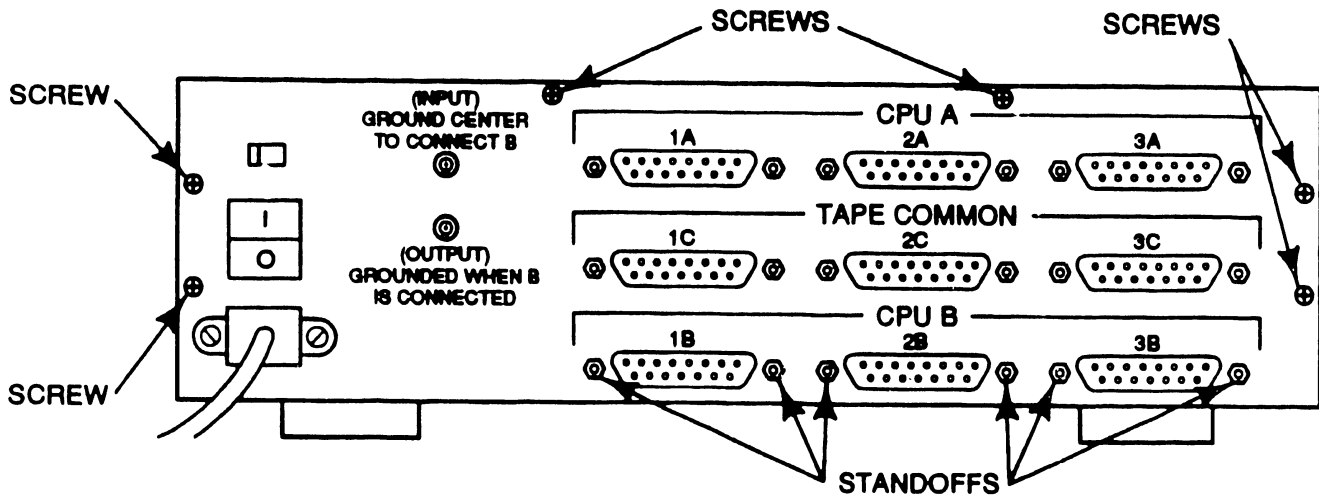

Figure 5 Cover Removal Procedure
1. Remove six Phillips screws from rear of unit. Two each from outside edges, and two from top of rear panel. (Figure 5)
6. Remove six one-quarter inch standoffs from rear panel connectors 3B, 2B and 1B. (Figure 5)